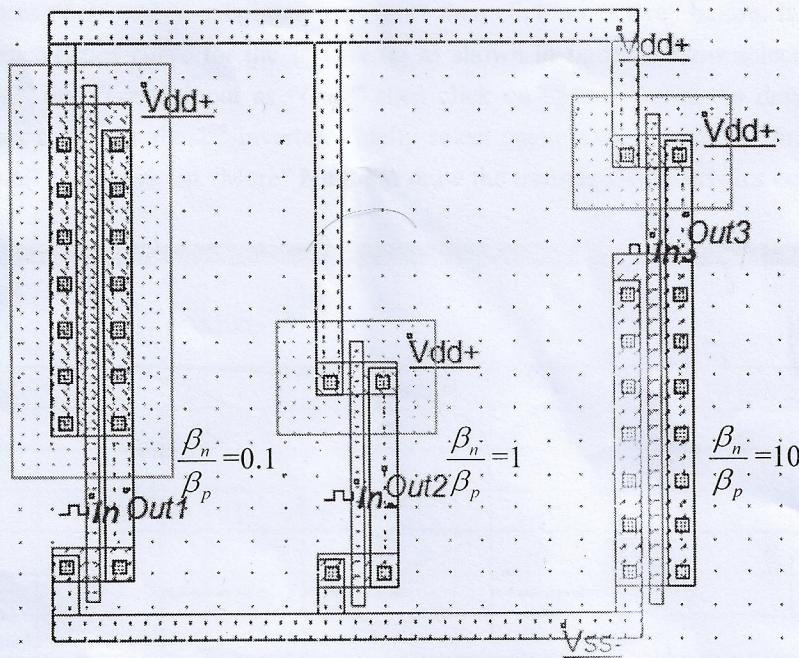

Fig. 2 Layout diagram of CMOS inverters
- ⇒ Generate the nMOS and pMOS transistors for creating CMOS inverter with width and length ratio specified in table 1. In this experiment we will generate three inverters that we need for experimenting  $\frac{\beta_n}{\beta_p}$  ratio effect. The layout diagram is shown in figure 2.
$\Rightarrow$  is  $4\gamma \times 2\gamma$  from palate. The nMOS generation process is shown in figure 2